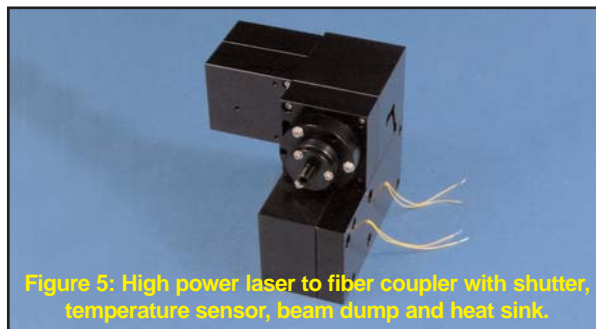

Figure 5: High power laser to fiber coupler with shutter, temperature sensor, beam dump and heat sink.
2. A customer is using OZ Optics shutter, built for use with high power applications, inclusive of beam-dump as shown in Figure 5. In case the beam-dump or inadequate heat sinking causes excessive heating of the shutter assembly, a temperature sensor signal can be used by the operator to initiate suitable actions (trigger alarm, safety interlock, laser shutdown etc.)
- High power shutters involving reflectors to divert beam into beam-dump, with optional heat-sinking - See Figure 5